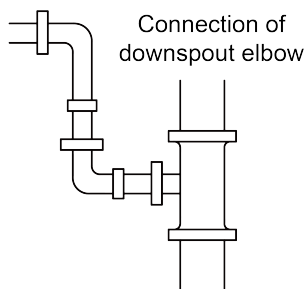

Fig.4.3.7
- No.2: Connection of downspout elbow (Fig.4.3.7)